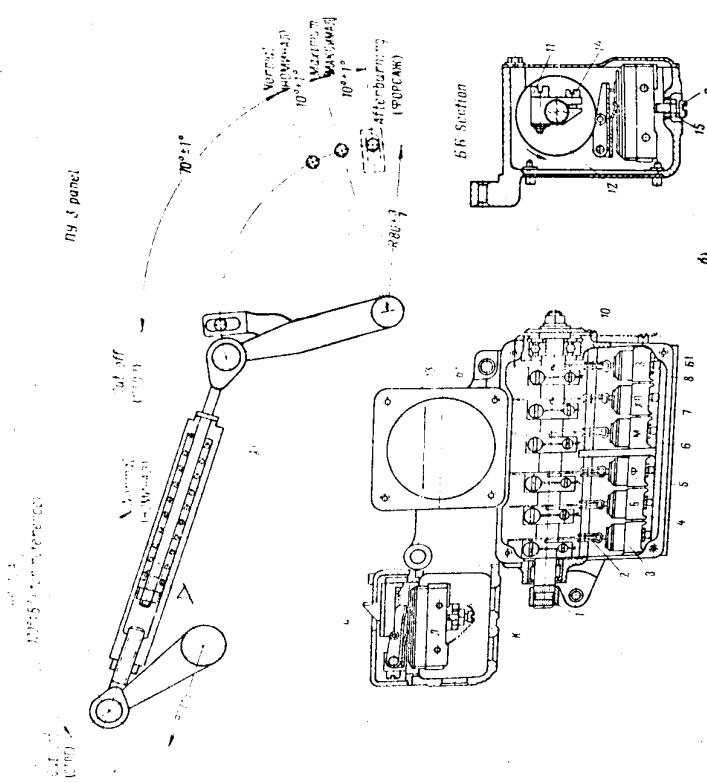

Fig.12. IIY-3 Control Panel
1. Unlock and turn out the four bolts holding the upper cover of control panel NY-3, then remove the cover (fig.12).
2. Unlock screws 11 and 14 (See Fig.12).
Prior to adjusting limit switch II of the compressor air blow-off band, check the limit switch for proper operation by shifting stop H (See Fig.12) thereby opening and closing the compressor ports with the help of the air blow-off band.